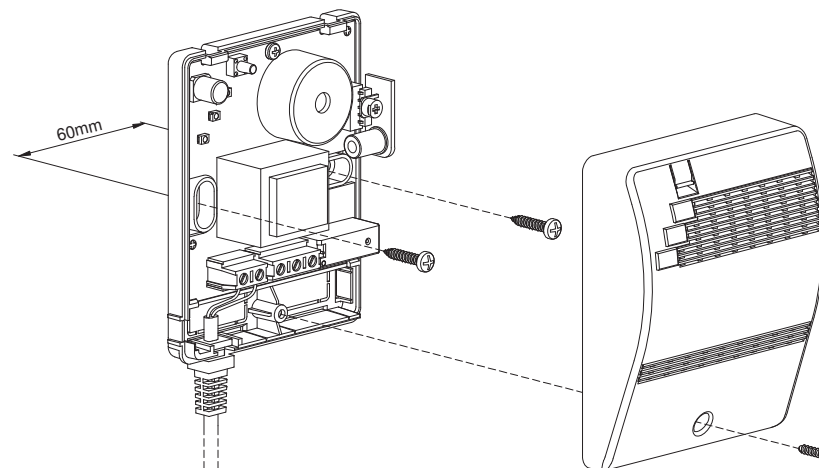

Fig. 2: Installation example of BEAGLE *plus* -S.
3. Remove the detector's panel as shown in Fig. 2.
This device is intended for wall mount only. To access to the internal terminals, remove the front panel by loosening the screw (Fig. 2).